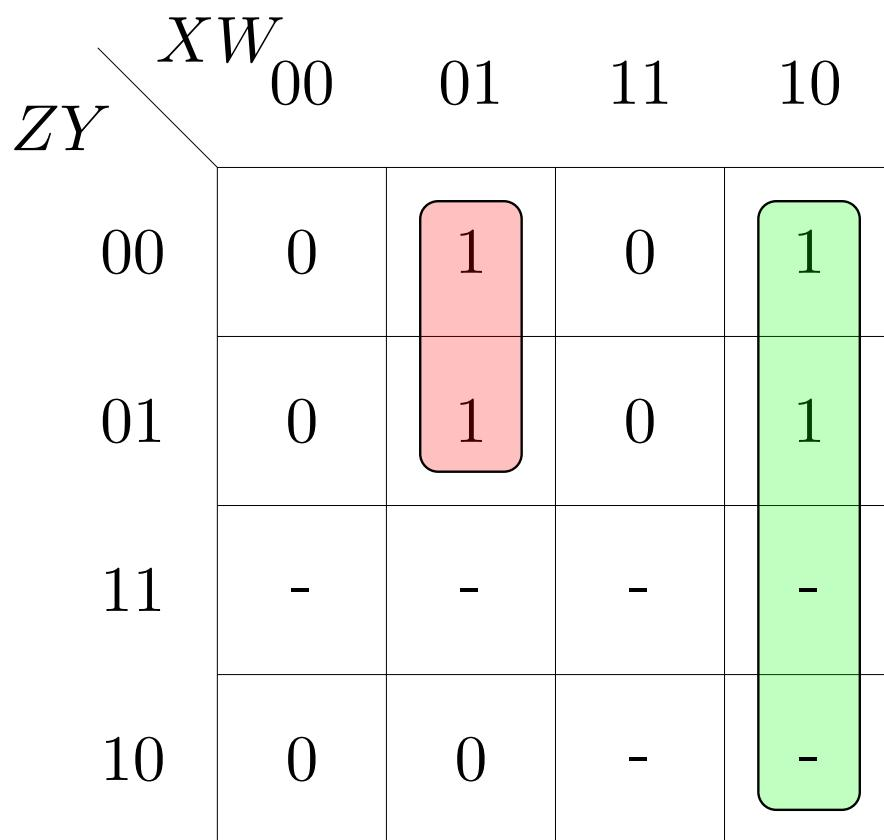

Figure 4.6: K-map for B with don't cares
3. The revised K-map for B is available in Fig 4.6 Show that